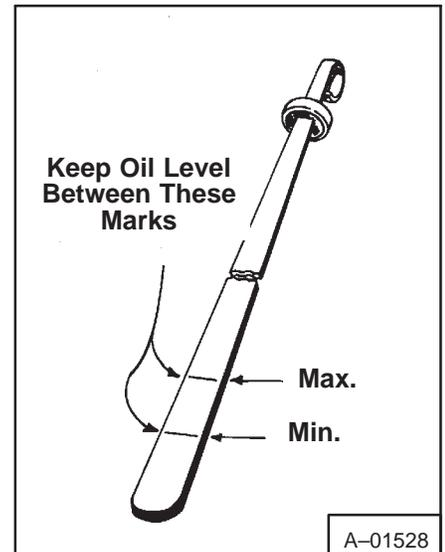

Fig. 1-10 Dipstick
3. Oil level must always be kept between the *Min* and *Max* marks on the dipstick (Fig. 1-10 & 1-11).